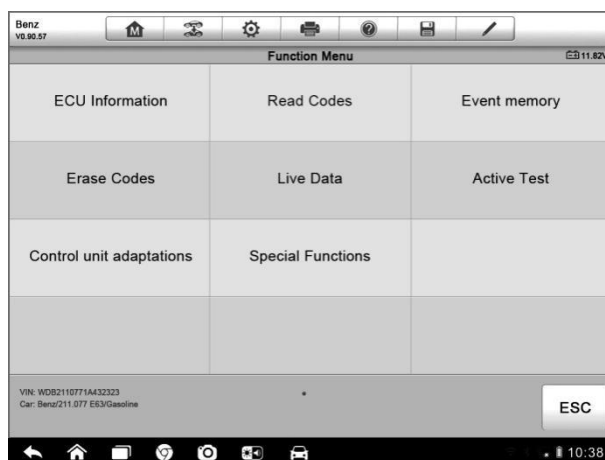

Figure 4-7 Sample Function Menu Screen
- Tap the  button to the right of the system item, on which you want to perform further diagnosis and other test activities. A Function Menu screen (Figure 4-7) shall then display.